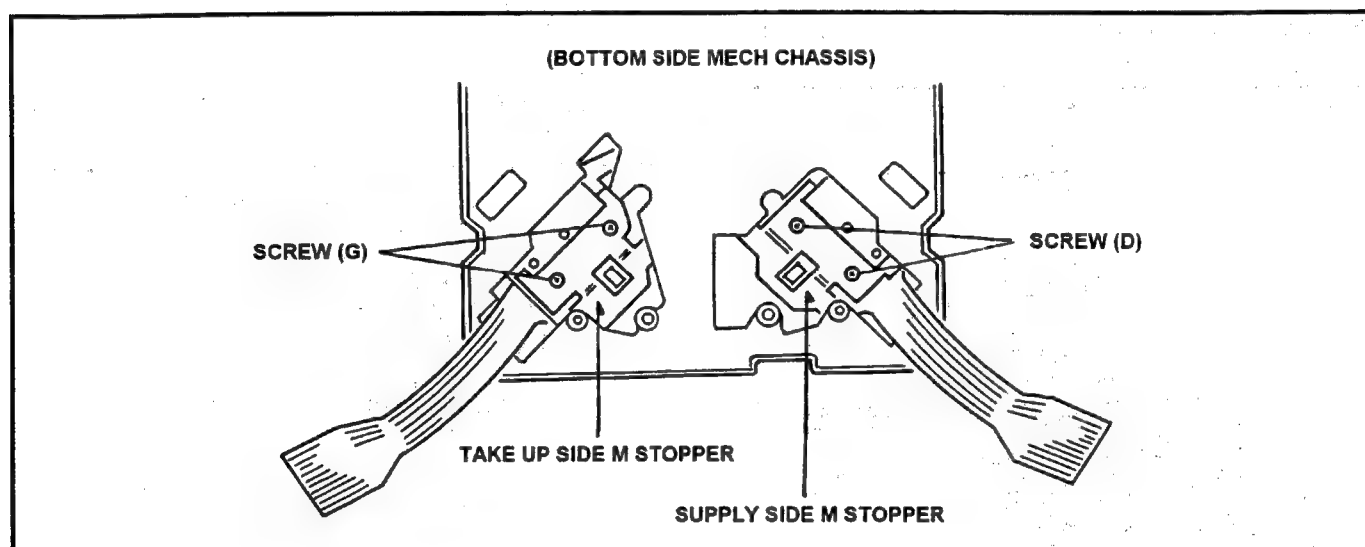

Fig. 8-3-3 Removal of Supply & Take Reel Rotor Unit
9. Unscrew the **2 screws (D)** to remove the S-Side M Stopper from Supply Reel Rotor Unit as shown in Figure 8-3-3.
6. Unscrew the 2 screws (G) to remove the T-Side M Stopper from Take Up Reel Rotor Unit as shown in Figure 8-3-3.